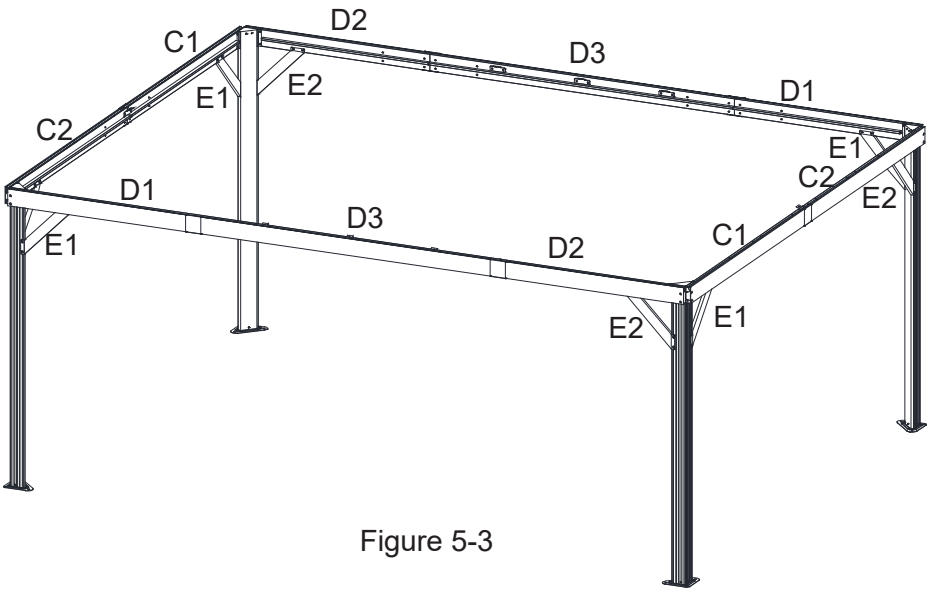

Figure 5-3
- 5.3. Repeat for all Corner Posts and Lintels. Tighten All Bolts. See Figure 5-3.